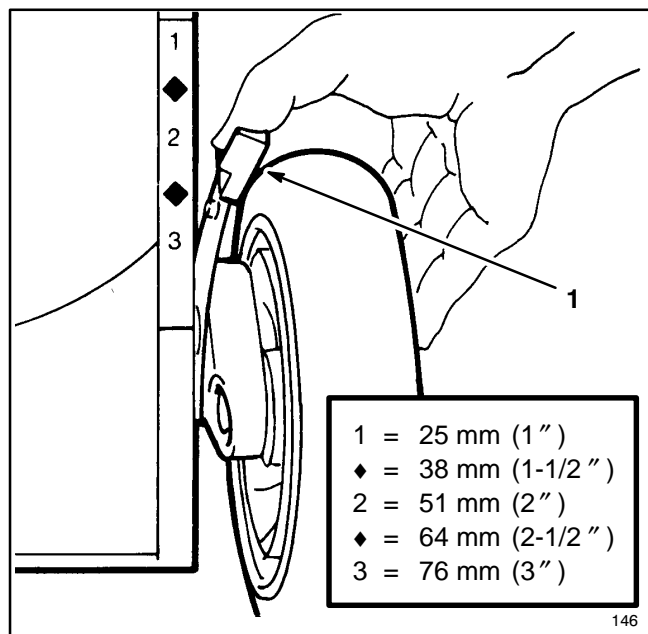

Figure 14
2. For easier adjustment, lift housing up so wheel is off ground. **Do not place hands under deck to lift housing.** Squeeze adjusting lever toward wheel and move to desired setting (Fig. 14). Ensure pin on adjusting lever engages notch in housing. Adjust all wheels to the same setting.
2. Put all four wheels in "3" height-of-cut position (Fig. 14).
2. Put all four wheels in “3” height-of-cut position (Fig. 14).